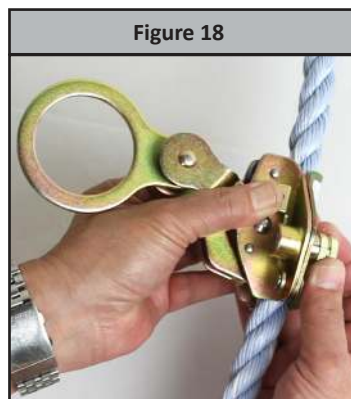

Figure 15
Step 2: To open the Fall Arrester, depress the safety latch and unscrew the knurled locking knob, see Figure 15.